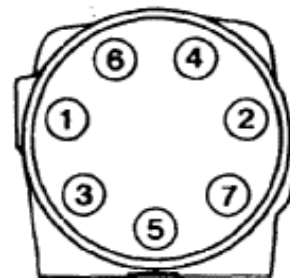

FIGURE 23
24. Install 7 **dry** cap screws in end cap. Pretighten screws to 17 N.m (150 lb.in), then torque screws to 31 N.m (275 lb.in) in the sequence show in Fig. 23.